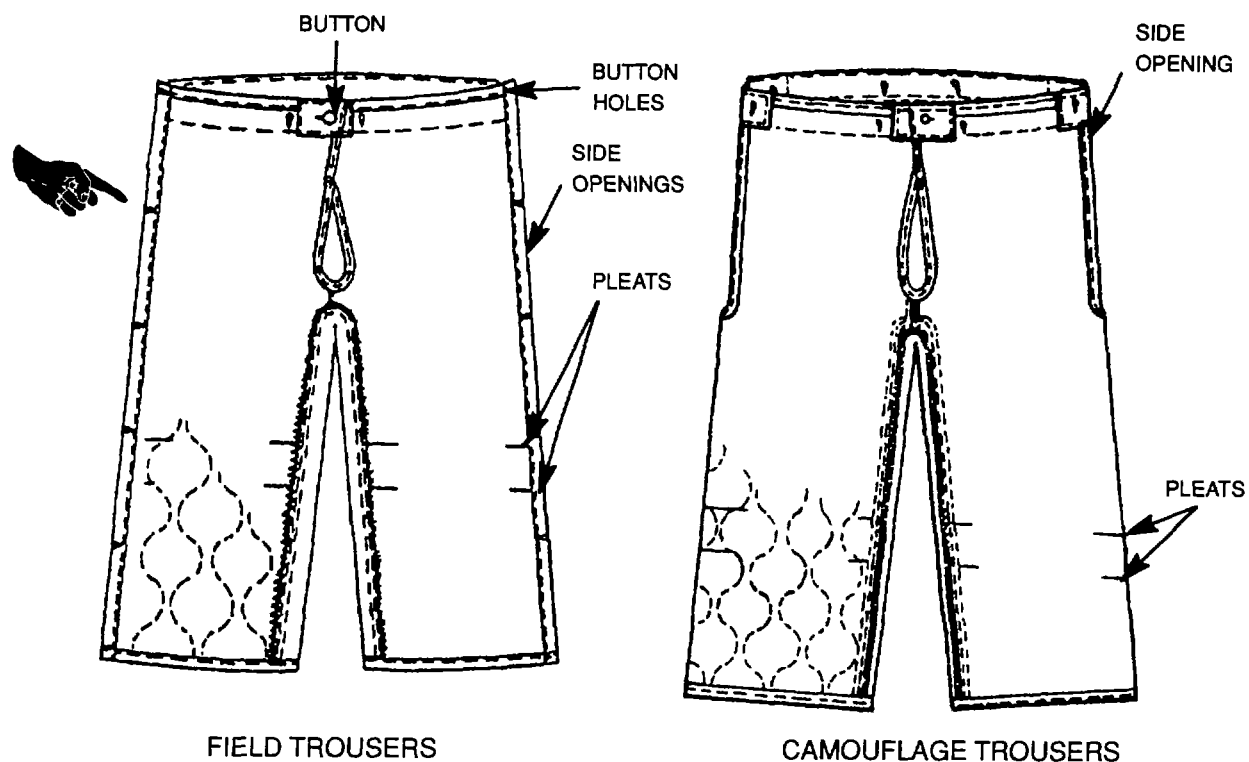

Figure 12-2. Trousers Liners.
- c. Liner, Cold Weather Trousers, Field, Green US Army 106, MIL-L-43498 (NSN's 8415-01-180-0370 through 0377), Figure 12-2. Trousers liner made from quilted polyester batting material, for the Cold Weather Field Trousers.
- d. Liner, Trousers, nylon quilted, natural, MIL-L-43672 (NSN's 8405-00-935-0546 through 0553), Figure 12-2. The quilted camouflage trouser-liner is a natural color undergarment of polyester batting covered with 3 plys of nylon parachute cloth with a side opening waistband.